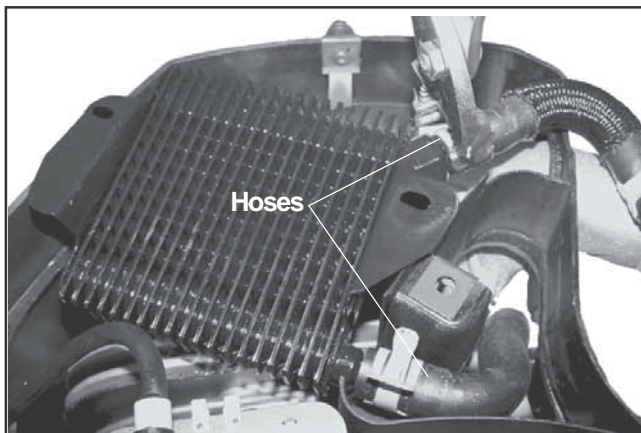

Figure 10-85. Connecting Oil Cooler Hoses.
1. Connect the two hoses between the oil filter adapter and oil cooler. Secure with new clamps. See Figure 10-85.